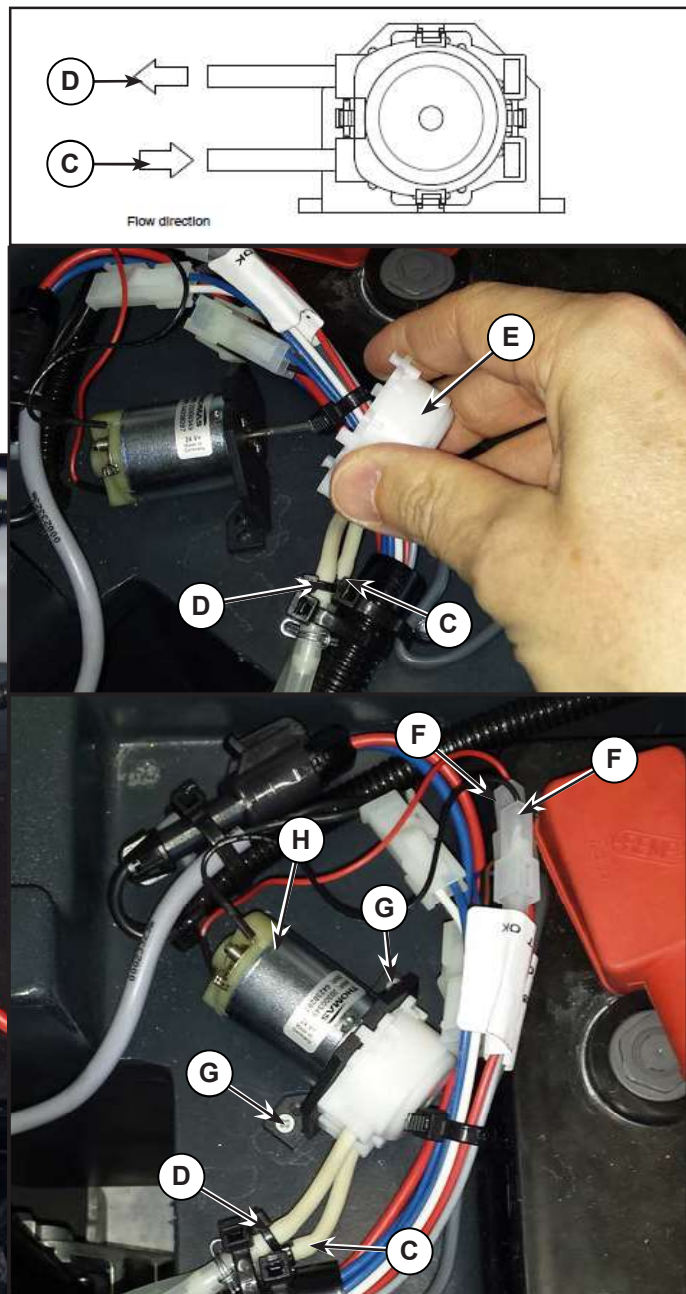

Figure 13:
4. Unscrew the two screws (A) (Figure 13) and remove the cover (B).
- a. Disconnect the tank hose (C) and brush hose (D).
- b. Remove the head of the detergent pump (E) to the detergent pump motor .
- a. Disconnect the connectors (F) and the tank hose (C) and brush hose (D).
- b. Unscrew the two screws (G) and remove the detergent pump (H).